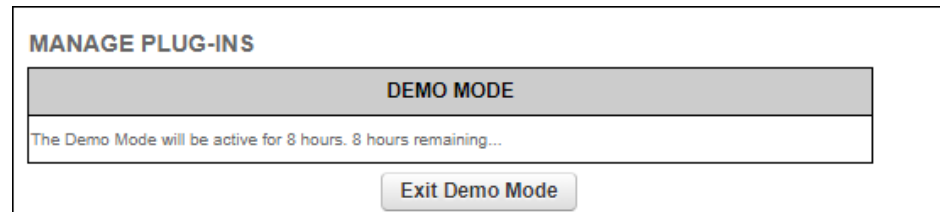

Figure 42. MANAGE PLUG-INS dialog (Demo Mode activated)
- The **Demo Mode** activation dialog will be shown (Figure 42 \(page 93\)). A countdown timer shows how much Demo time remains.